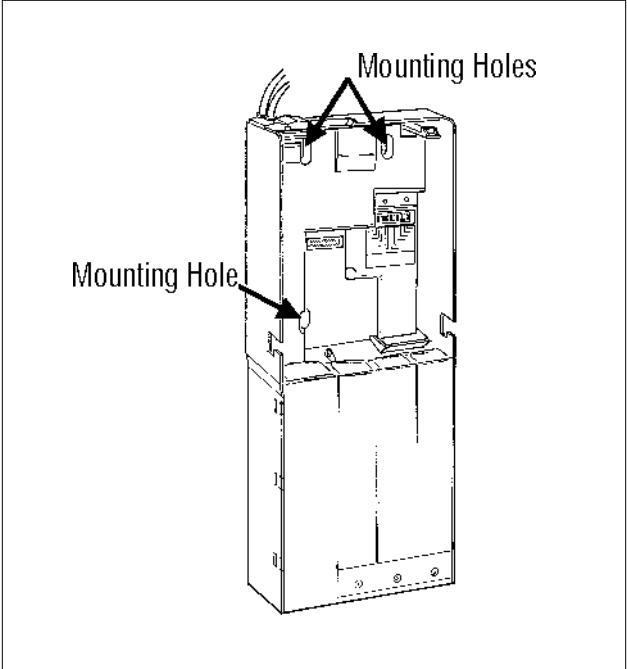

Figure 3
3. With the acceptor removed, set the mounting holes in the back of the changer housing over the mounting screws in the vendor. Tighten snugly (see Figure 3).